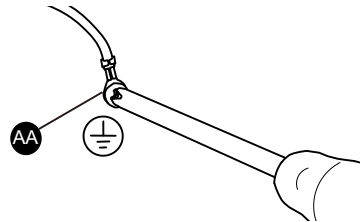

Figure 13 - Attaching Grounding Wire
3. Install grounding terminal to the back wall of firebox with 1) M4.2X8 screw (AA). The hole for installing the screw is marked with the grounding symbol as shown in Figure 13.